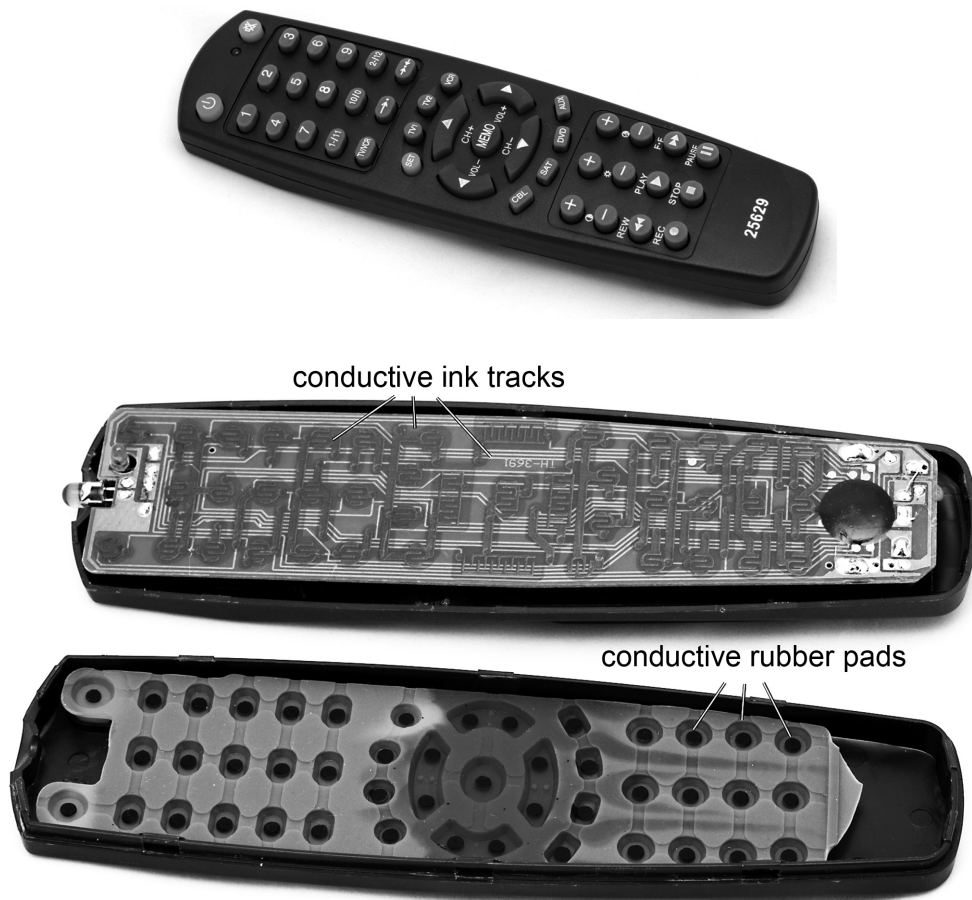

Fig. 3
2 Fig. 3 shows views of an infra red (IR) remote controller for a TV or DVD player.